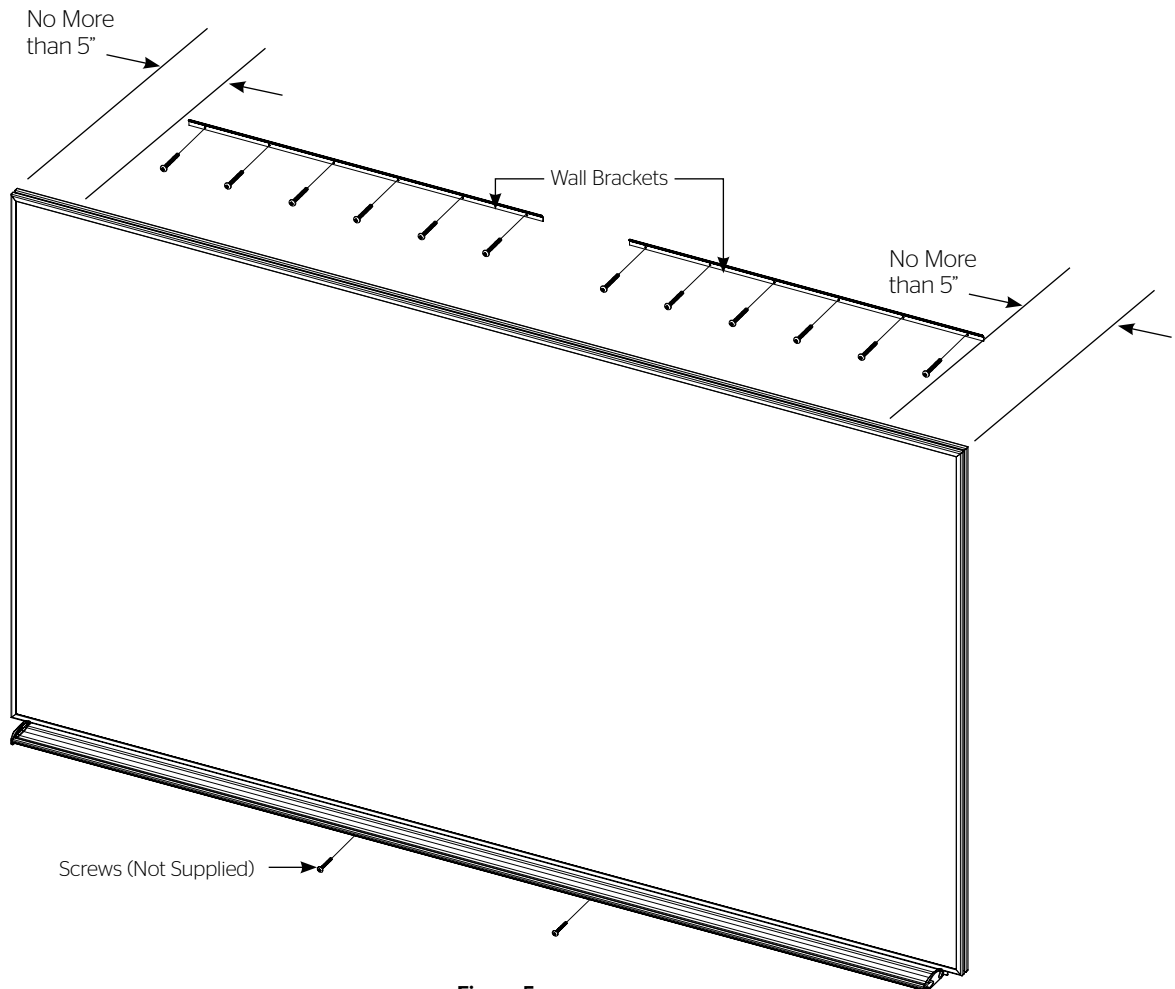

Figure 5
**NOTE:** The screen is shipped with two wall brackets. Screens in widths of 88" and below receive (2) 28" wall brackets. Screens above 88" in width receive (2) 44" wall brackets. Use appropriate mounting hardware for the wall type and to accommodate for the screen's hanging weight.
2. This step requires two people. Hang the screen on the wall brackets (Figure 5). There is a lip on the back of the frame that wedges itself into the wall brackets once fully installed.
3. Attach bottom of screen to wall through the mounting holes located under the tray (Figure 5).